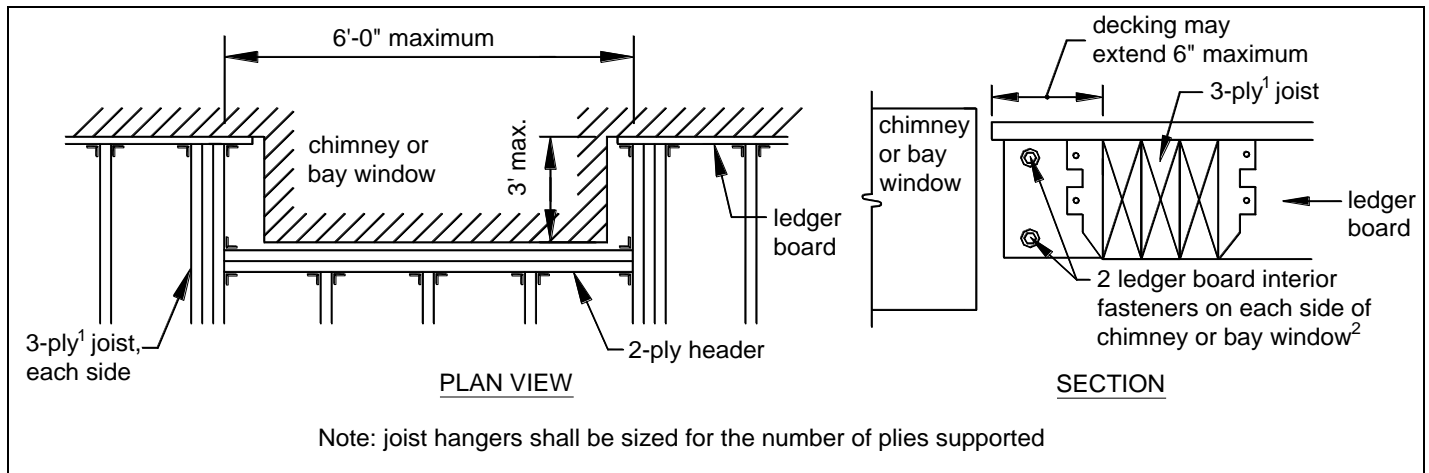

FIGURE 22: REQUIREMENTS FOR FRAMING AT CHIMNEY OR BAY WINDOW
¹ Additional interior fasteners are required at chimney or bay window; see FIGURE 22.
All framing at a chimney or bay shall be constructed in accordance with FIGURE 22 and the requirements below.
- Joist hangers shall be specifically designed to accommodate the number of members identified in FIGURE 22.